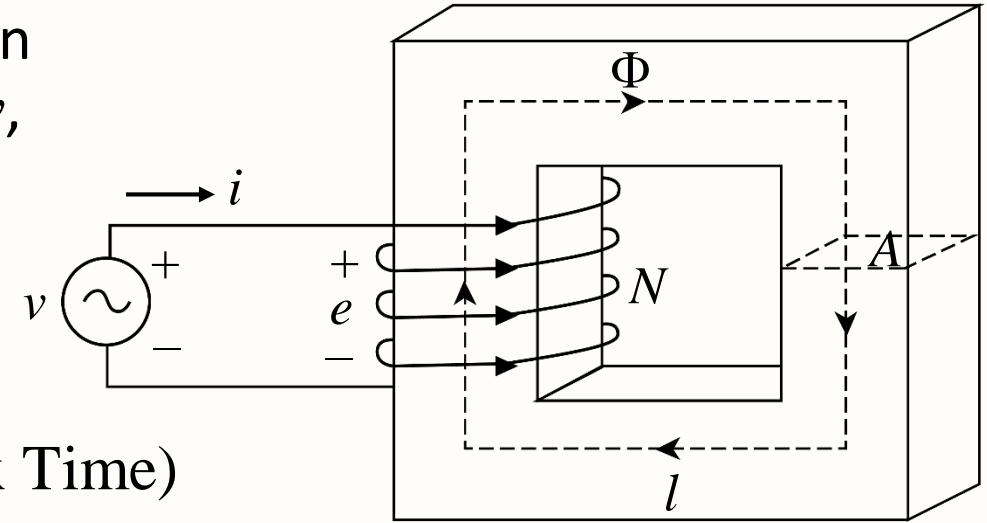

Fig. 40. Lossless magnetic circuit.
- ❖ Consider a lossless magnetic circuit as shown in Fig. 40. If the current input is i at a voltage of v , electrical energy input in time interval dt is